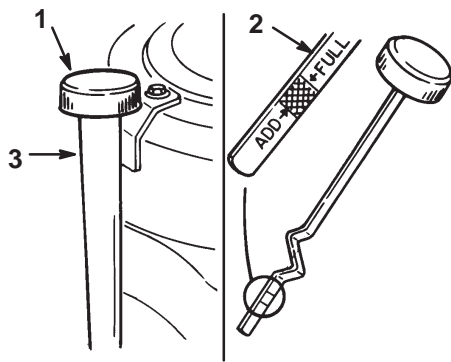

Figure 24
2. Clean around the oil dipstick (Fig. 24) so dirt cannot fall into the filler hole and damage the engine.
3. Unscrew the oil dipstick and wipe the metal end clean (Fig. 24).
4. Thread the oil dipstick fully onto the filler tube (Fig. 24). Pull the dipstick out and look at the metal end. If oil level is low, slowly pour only enough oil into the filler tube to raise the level to the "FULL" mark.
5. Slowly pour approximately 80% of the specified oil, page 27, into the filler tube (Fig. 24). Now check the oil level; refer to Checking Oil Level, page 27. Slowly add additional oil to bring to "FULL" mark on dipstick.